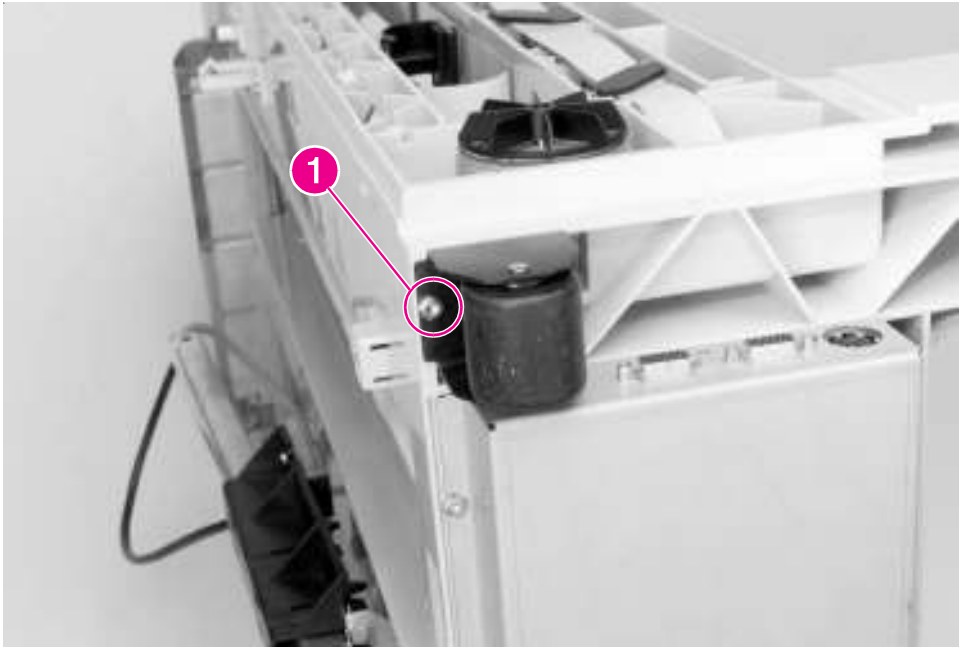

Figure 6-176 8-bin Mailbox Adjustable and Fixed Casters
- 3 Remove the 1 screw that secures the caster to the 8-bin Mailbox frame (Figure 6-176, callout 1).